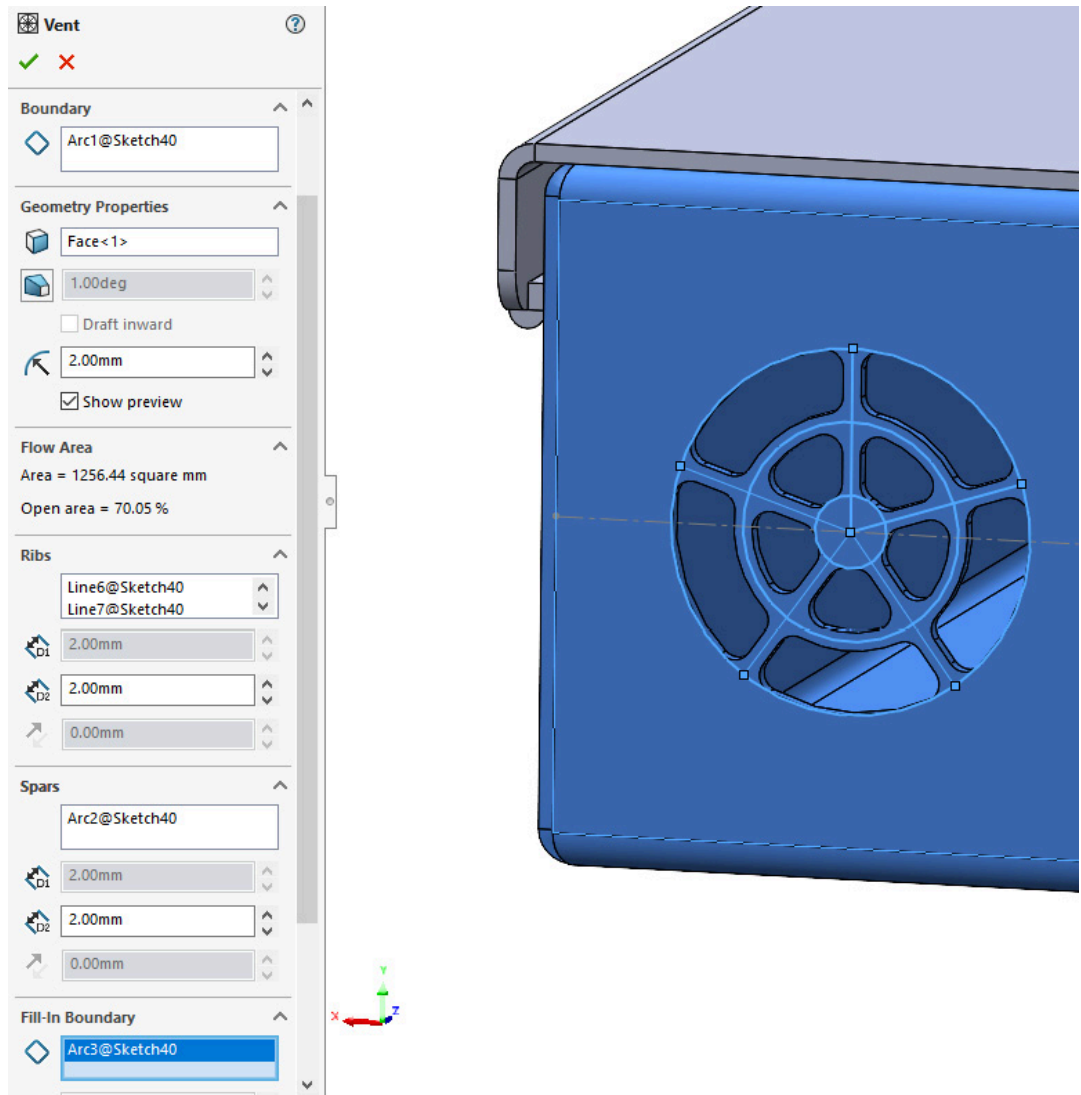

Figure 13.23 – Creating the Vent
3. We can now start creating the **Vent** feature. Select the **Vent** tool and use the sketch to populate the fields in the Property Manager. I used the following parameters (*Figure 13.23*):